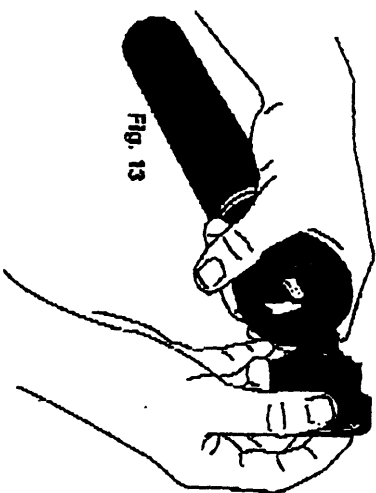

Fig. 13
1. Holding the largest part of the flashlight's head, unscrew the face cap. The reflector assembly will come out with the face cap. This is factory assembled and should not be taken apart (Fig. 13).
5. Raise the head of the light (Fig. 13) to its full up position. Reinsert face cap and reflector assembly and screw on tightly.